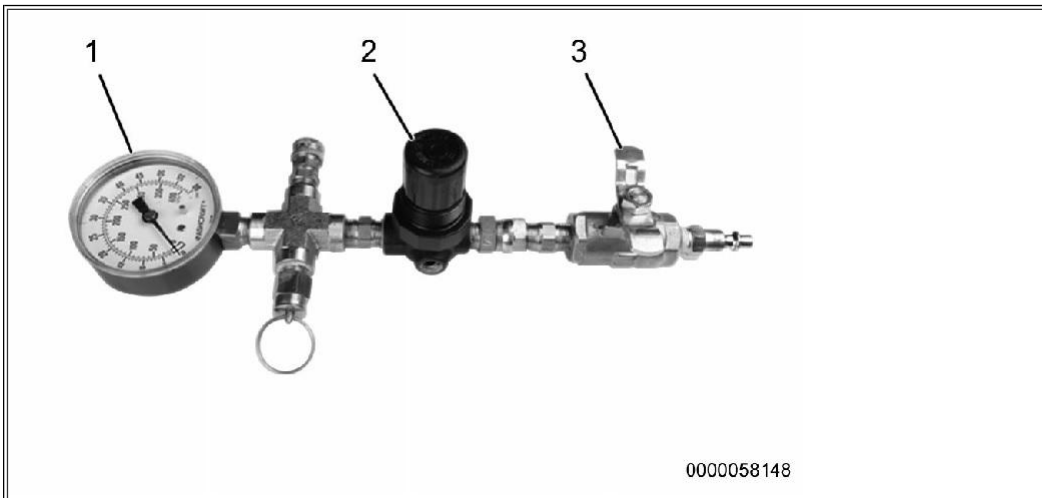

Figure 1: Gauge / Regulator Assembly
2. Connect a filtered air supply to air valve (Figure 1, Item 3) on gauge / regulator assembly.
3. Open air valve (Figure 1, Item 3) slightly, and slowly increase air pressure until gauge (Figure 1, Item 1) reads 30 psi (205 kPa). If required, adjust air regulator (Figure 1, Item 2) until gauge reads 30 psi (205 kPa) as follows:
- A. Pull air regulator knob (Figure 1, Item 2) outward to unlock.
- B. Turn air regulator knob (Figure 1, Item 2) to adjust pressure to 28 - 32 psi (193 - 221kPa).
- C. Push air regulator knob (Figure 1, Item 2) back into locked position.
4. Close air valve (Figure 1, Item 3) and monitor gauge (Figure 1, Item 1) with stop watch for 15 seconds. Note any decrease in air pressure.